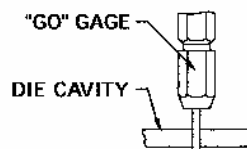

Figure 46. "GO" Gage
b. Place the movable die half between the die rails. Carefully lower the die and mate the die snap retainer to the snap retainer located in the ram as shown in Figure 46.
111 . "GO" Gaging. Insert the "GO" gage end as shown in Figure 46. The gage must pass freely through the cavity in the die set.